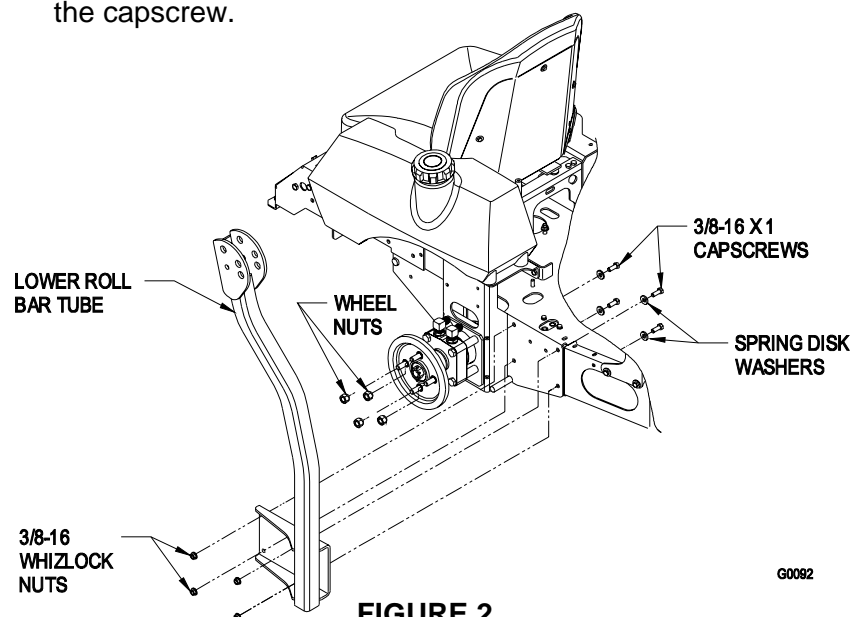

FIGURE 2
- Align lower roll bar tubes along wheel motor channels as shown in Figure 2.
- c) **LOOSELY** install lower roll bar hardware (four 3/8-16 x 1 capscrews, four spring disk washers and four 3/8-16 whizlock nuts) from the bolt bag to the tubes on each side as shown in Figure 2: